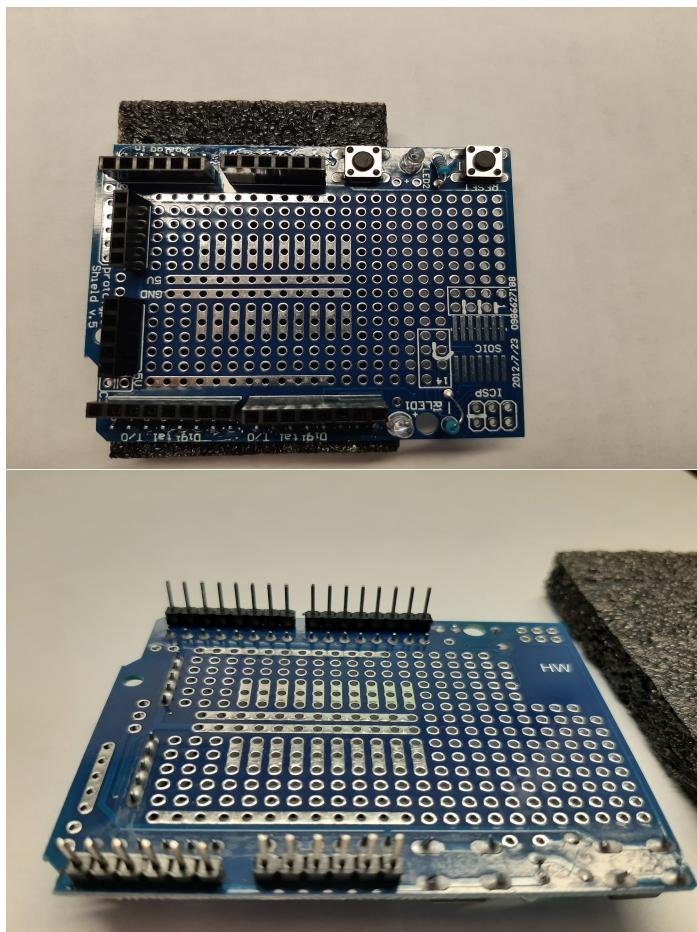

Figure 5.1: An arduino prototyping shield. The upper image shows the top of the shield, and the lower image shows the bottom of the shield.
Arduino shields are a simple way to add specific functionality to your Arduino. There are many different shields with many different features. Some shields have additional integrated circuit (IC) chips on them that can add additional computational power. Others are extremely simple and are designed so you can have a more solid electrical connections with your experiment. Figure 5.1 shows an example of a simple prototyping shield (basically like our prototyping boards, but with the intention that circuit elements will be soldered to the board). Notice the long wire pins on the bottom. These are designed to be plugged directly into the Arduino. (When the shield is not in use, these pins should be pushed into the conductive foam block. This will not only protect them from getting bent, but will also protect the electrical circuits on the shield from static shocks.)